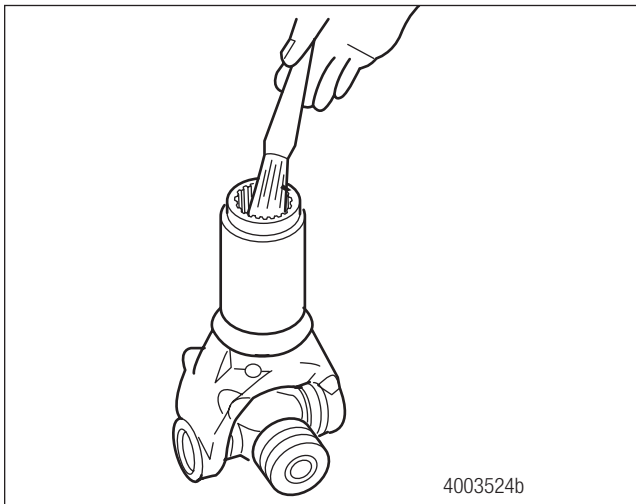

Figure 9.10
3. Use a brush to distribute lubricant on the splines. Figure 9.10.